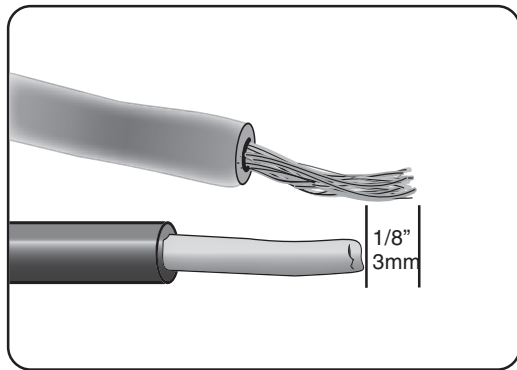

Figure 29
- Extend the dishwasher's stranded wires 1/8" (3mm) beyond the power supply cable's solid wires, as shown in **Figure 29**.